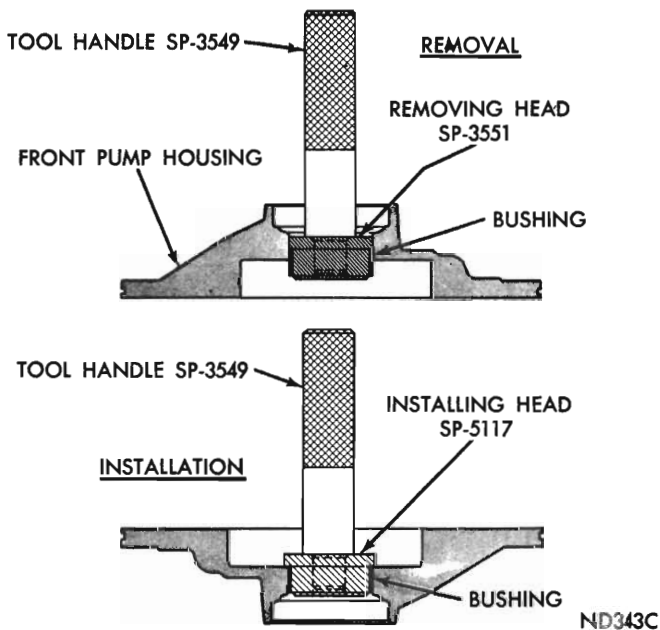
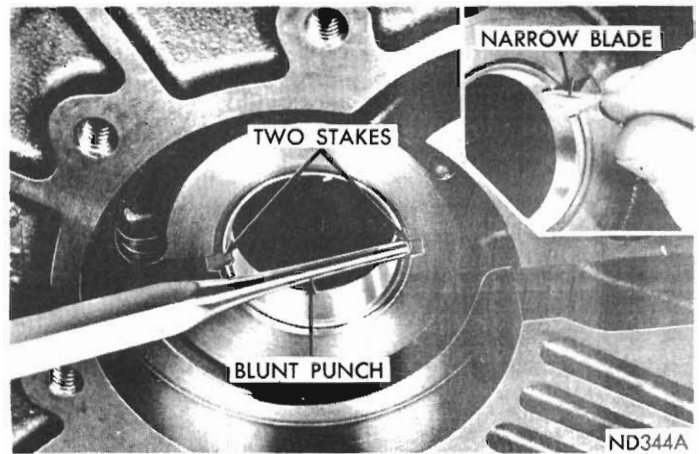

Fig. 62 - Replacing pump bushing (A-904)
Fig. 63 - Staking pump bushing (A-904)
- (1) Place pump housing (seal face down) on a smooth firm surface.
- (2) Place removing head, Tool SP-3551 in bushing and install handle, Tool SP-3549 in the removing head (Fig. 62).
- (3) Drive bushing straight down and out of pump housing bore. Be careful not to cock tool in the bore.
- (4) Position new bushing on installing head, Tool SP-5117.
(5) With pump housing on a smooth clean surface, start bushing and installing head in the bushing bore. Install handle, Tool SP-3549 in the installing head (Fig. 62).
(6) Drive bushing into housing until tool bottoms in the pump cavity. Be careful not to cock tool during installation.
(7) Stake bushing in place by using a blunt punch or similar tool (Fig. 63). A gentle tap at each stake slot location will suffice.
(8) Using a narrow-bladed knife or similar tool, remove high points or burrs around staked area (Fig. 63). Do not use a file or similar tool that will remove more metal than is necessary.